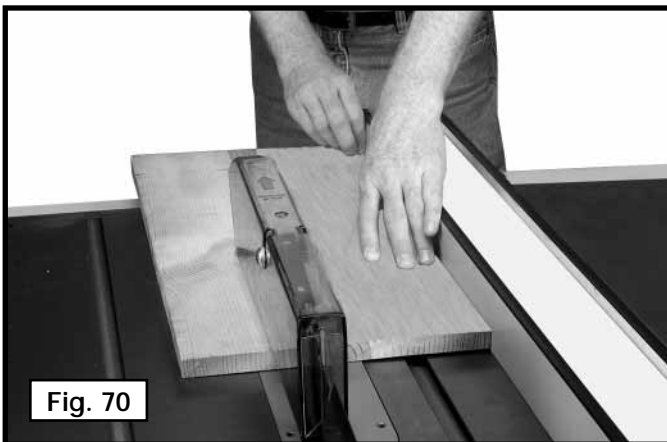

Fig. 70
Ripping (Fig. 70) is cutting lengthwise through a board. The rip fence (A) is used to position and guide the work. One edge of the work rides against the rip fence while the flat side of the board rests on the table.
1. Before starting the cut, raise the blade so that it is about 1/8" (3.2mm) higher than the top of the workpiece. Start the motor and advance the work, holding it down and against the fence. **Never** stand in the line of the saw cut when ripping. When the rip width is 6 inches or wider, hold the work with both hands and push it along the fence and into the saw blade (Fig. 70). Feed force when ripping should always be applied between the saw blade and the fence. Never pull the workpiece from the back of the saw. The work should then be fed through the saw blade with the right hand. Keep pressure on the workpiece against the fence and down on the saw table. Ensure that you have adequate outfeed support for the workpiece and **KEEP YOUR HANDS AWAY FROM THE SAW BLADE.**